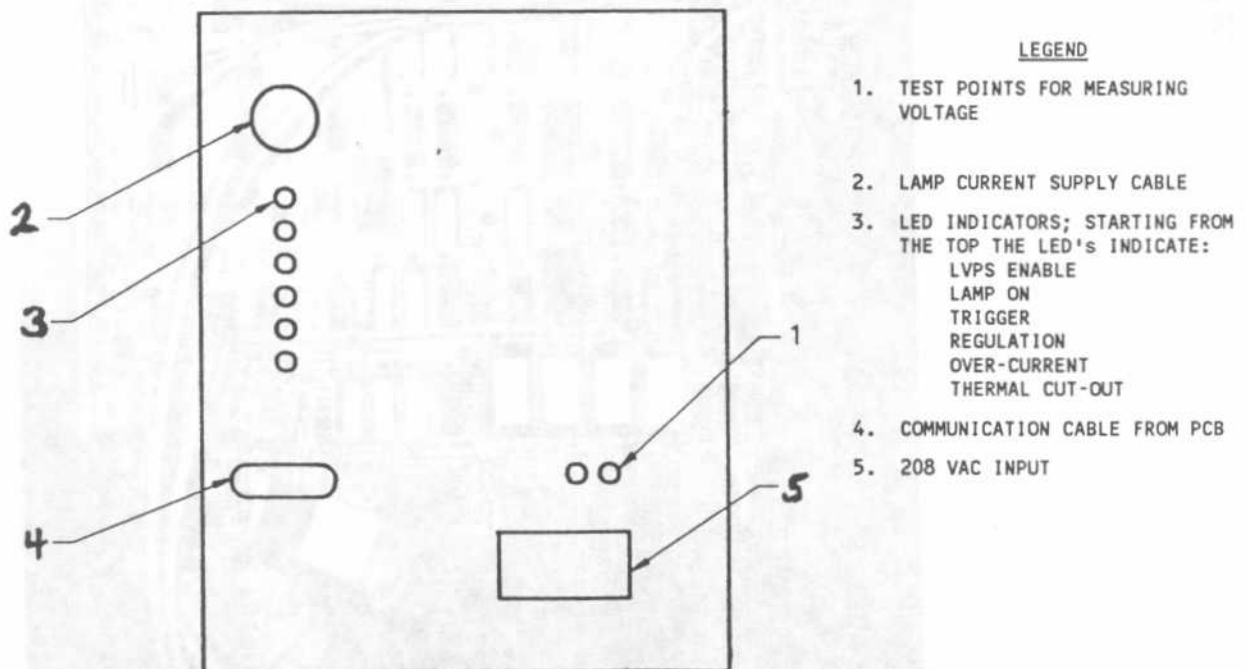

Figure 8-3. Rear of Lamp Power Supply
This module is mounted next to the Electronics Card. Figure 8-3 shows a rear view. Except for a few basic checks, the only recourse during troubleshooting is to replace the entire supply.
3. With DVM, measure output voltages directly on LVPS (refer to Fig. 8-3 for voltage test points).